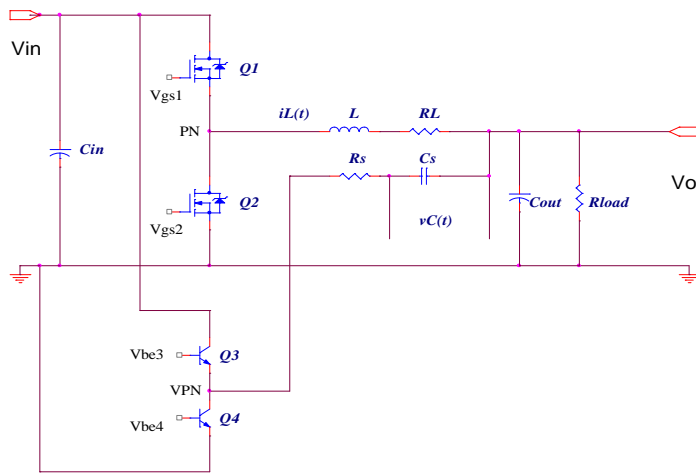

Fig.1 The Basic Structure of Combi-Sense.
The basic structure of the Combi-Sense is shown in Fig.1. Where R_L is the equivalent resistance of the output inductor. The added R_s and C_s form the RC branch in “parallel” with the output inductor for inductor current sensing. This branch works with a small signal totem pole (Q3 and Q4) integrated in SC4510 in order to improve the signal-to-noise ratio. The base signals Vbe3 and Vbe4 are designed to closely follow the gate signals Vgs1 and Vgs2, respectively. Ideally, the leading and falling edges of the Virtual Phase Node (VPN) follow that of the Phase Node (PH) when Q1~Q4 switch in perfect synchronism.
When Q1/Q3 turn ON and Q2/Q4 turn OFF, the equivalent circuit of Fig.1 is shown in Fig. 2a). Where, R_{ds1} is the on-resistance of the top MOSFET. The two branches, consisting of $\{(R_{ds1}+R_L), L\}$ and $\{R_s, C_s\}$, are in parallel. The DC voltage drop $(R_{ds1}+R_L)I_o$ equals V_{cs} . In this way, the output current is sensed from V_{cs} when $(R_{ds1}+R_L)$ is known.
When Q1/Q3 turn OFF and Q2/Q4 turn ON, the equivalent circuit of Fig.1 becomes the sub-circuit as shown in Fig. 2b). Where R_{ds2} is the channel resistance of the bottom MOSFET. In this case, the branch $\{R_s, C_s\}$ is in parallel with $\{(R_{ds2}+R_L), L\}$ and $V_{cs}=(R_{ds2}+R_L)I_o$.
In SC4510, the current limiting is performed on cycle-by-cycle basis. When the voltage difference between CS+ and CS- exceeds 65 mV, the top MOSFET duty ratio is clipped in order to limit the output source current. Similarly, when the voltage difference between CS- and CS+ exceeds 113 mV, the bottom MOSFET duty ratio is clipped in order to limit the sink current. For the configuration in Fig.1, the convertor output current limit is set around